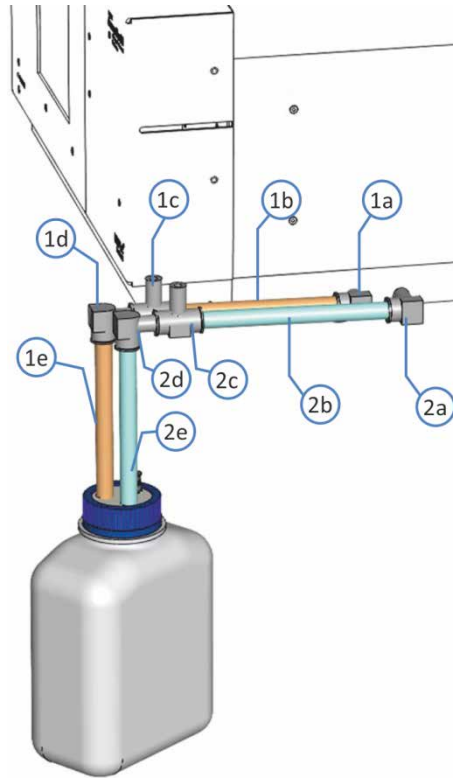

Figure 12: Drain ports connected with drain lines
- 2 tubes to interconnect L piece and tee piece (no. 1b and no. 2b in Figure 12 on page 88)
- 2 tubes to route the drain lines to the waste reservoir (no. 1e and no. 2e in Figure 12 on page 88)
Set up the two drain lines and connect them to the drain ports as shown in Figure 12.